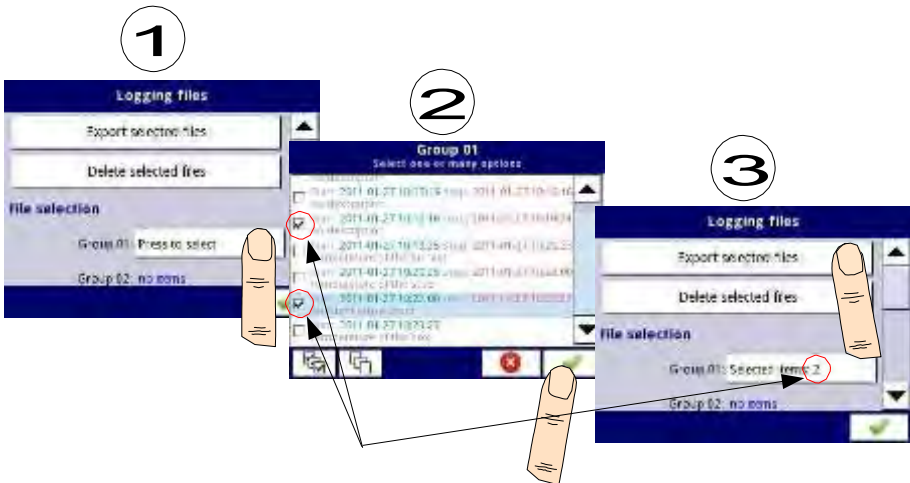

Fig. 7.19. Steps of exporting logged files to flash drive
An example of exporting 2 logged files from group 1 is shown in Fig. 7.19. First plug the flash drive into the device (when the device is equipped with one of the communication modules).
Deleting files from the device is similar export logging files, the difference is that instead of pressing the Export selected files button in (3) step (see Fig. 7.19), press the Delete button.